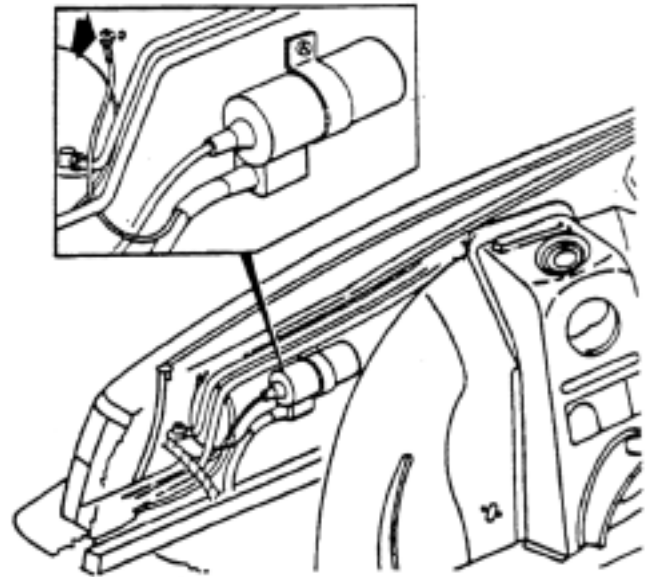

Figure 2. Drill a 3 mm hole in the **RH** inner fender.
5. Drill a 3 mm hole in the **RH** inner fender as shown in Figure 2.